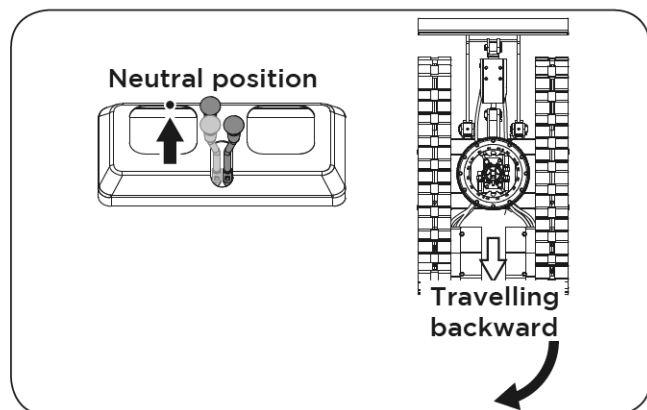

Figure 57
2. While travelling backward, push back the left drive lever into the neutral position, and keep pulling the right lever in the backward position, back of the excavator will turn to the right. (See **Figure 57**)